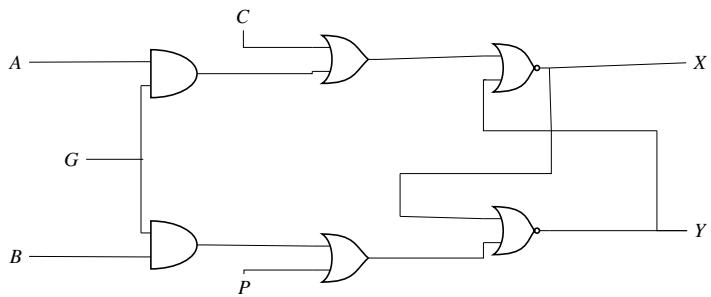

Fig. 5.27
30. For the following circuit Fig. 5.27, the correct logic values for the entries  $X2$  and  $Y2$  in the truth table in Table 5.2 are (GATE PH 2019)